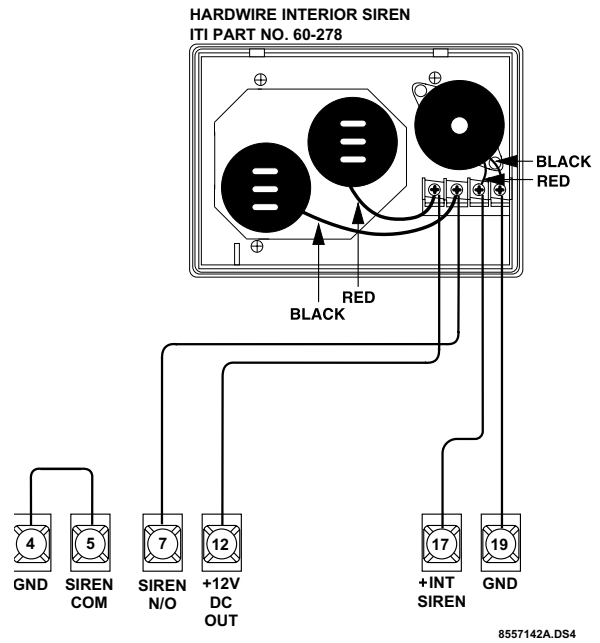

Figure 4. Unsupervised Siren Wiring to UltraGard and Custom Versions
2. Make wiring connections between the siren and the panel as shown in Figure 4.